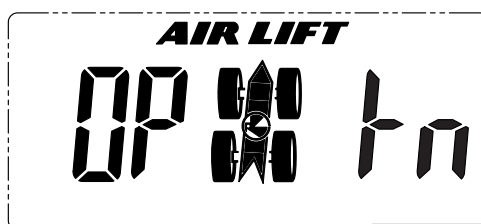

fig. 14
2. Press and hold down button P1 until the display reads "OPtr" as shown in fig. 14. This process takes about 8 seconds. After pressing and holding down button P1 for about 3 seconds, the screen will show "St-r". Do not release button P1, keep holding it down for about 5 more seconds, and the screen will show "OPtr" as seen in fig. 14 below.